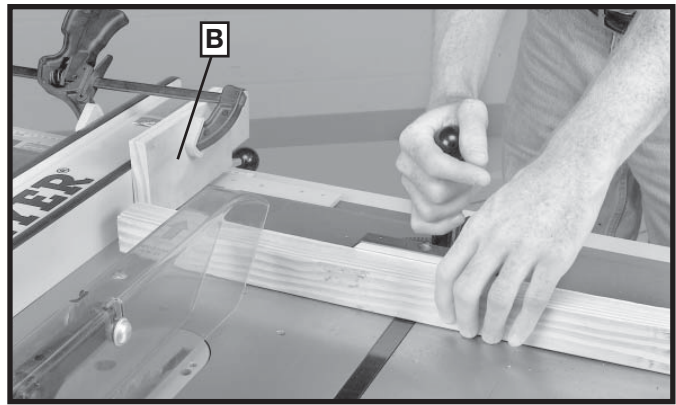

Fig. S4
When cross-cutting a number of pieces to the same length, a block of wood (B), can be clamped to the fence and used as a cut-off gauge as shown in Fig. S4. The block (B) must be at least 3/4-inch thick to prevent the cut-off piece from binding between the blade and the fence during removal from the saw table. It is important that this block of wood always be positioned in front of the saw blade as shown. Once the cut-off length is determined, lock the fence and use the miter gauge to feed the work into the cut.
⚠ CAUTION WHEN USING THE BLOCK (B) FIG. S4, AS A CUT-OFF GAUGE, IT IS VERY IMPORTANT THAT THE REAR END OF THE BLOCK BE POSITIONED SO THE WORK PIECE IS CLEAR OF THE BLOCK BEFORE IT ENTERS THE BLADE.